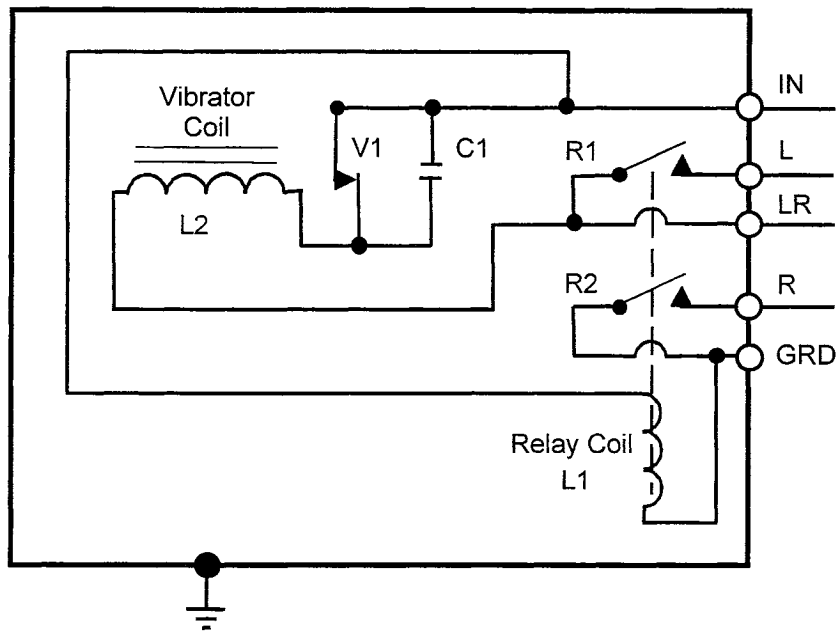

Figure 5-3
Figure 5-3, Starting Vibrator With Relay	5-6
- b. Figure 5-3, "Starting Vibrator With Relay Without Delay."